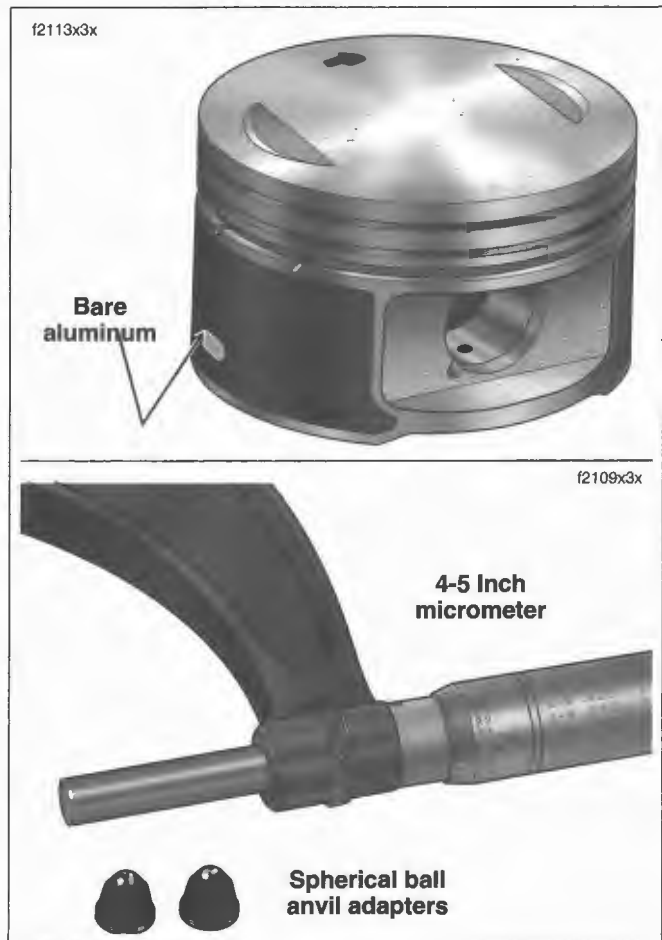

Figure 3-120. Measuring Running Clearance Piston
Piston measurement is taken on the bare aluminum to avoid measuring errors. An oval-shaped opening is present on each side of the piston for proper placement of the micrometer. See upper frame of Figure 3-120. The oval openings are too small for a standard flat anvil micrometer which would result in measuring errors. Use a 3-4 inch blade or ball anvil style micrometer, or a 4-5 inch micrometer with spherical ball anvil adapters. See lower frame of Figure 3-120.
5. See Figure 3-120. Measure running clearance of pistons as follows: